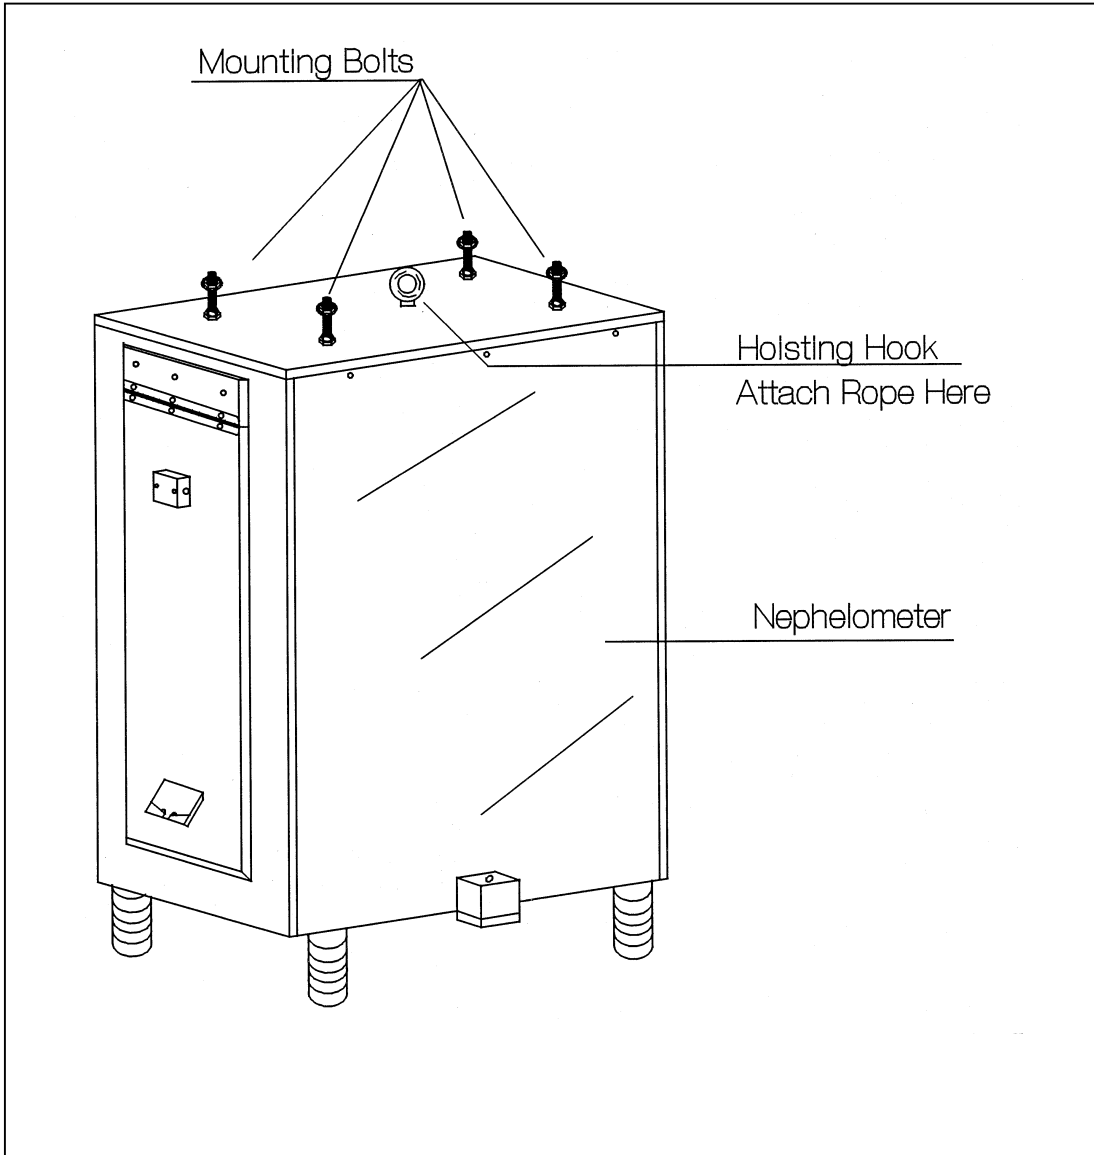

Figure 4-1. Optec NGN-2 Nephelometer Exterior Diagram.
Attach the nephelometer hoist rope hook to the circular hook on top of the nephelometer. Feed the rope through the two (2) pulleys on the underside of the precipitation/solar radiation shield and extend the rope to ground level. Refer to Figure 4-1, Optec NGN-2 Nephelometer Exterior Diagram, for location of the hoist rope hook.